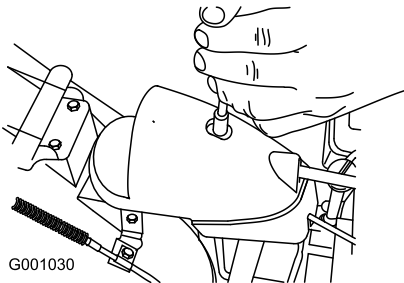

Figure 52
1. Remove the fastener on the gear cover (Figure 52), lift the front of the cover up, and slide it back and out of the way.